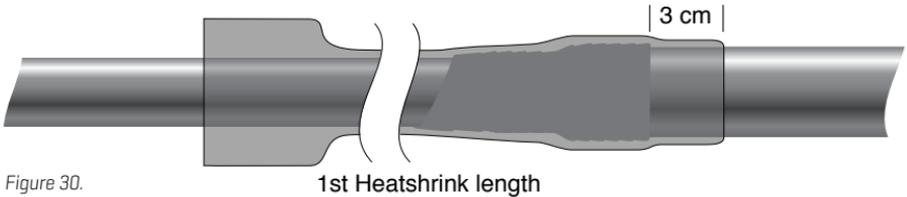

Figure 30.
10. Remove the plastic mast butt adaptor section of the mast base assembly [if fitted] by unscrewing the M6 Phillips head screw on the side. Straighten the cable as much as possible then carefully slip the first 1.2 m length of heatshrink over the cable until the end of the heatshrink tube covers and overlaps the semi-conductive tape [over the black outer sheath] by at least 3 cm [Figure 30]. Ensure that the semi-conducting tape is not damaged or lifted during this process. Using a gas torch or heat gun, carefully shrink the lower end of the heatshrink into the correct position and gradually work up towards the top of the heatshrink ensuring there are no pockets of air trapped under the heatshrink.